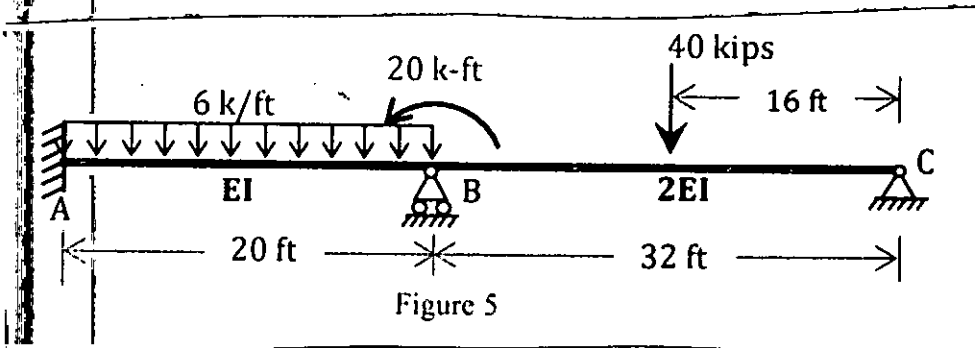

Figure 5
5. Analyze the beam shown in Figure 5 using Stiffness Method and draw the shear force diagram and bending moment diagram.